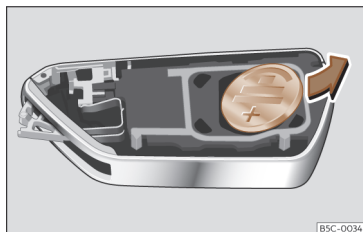

Fig. 84 Vehicle key: removing the battery.
- Remove the battery from the compartment with a suitable fine object >>> Fig. 84.